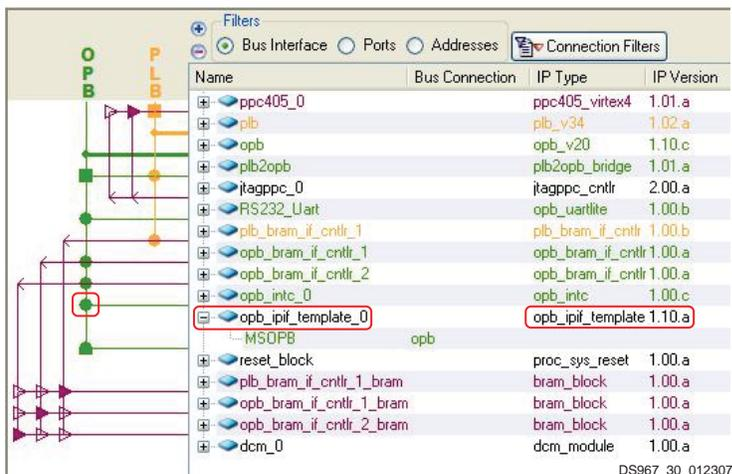

Figure 30: Connecting the Custom IP to the OPB Bus
4. To do so, make the selections as shown in Figure 30.
- c. Click on the green intersection with the OPB as shown in Figure 30 to connect the opb_ipif_template_0 OPB master and slave interfaces to the system OPB.
5. In the system assembly view, Figure 30, double click on **opb_ipif_template_0** to open the opb_ipif_template_v1_10_a window in which address configurations can be assigned.
In the system assembly view shown in Figure 30, select **Ports** under Filters, then connect the custom IP interrupt signal to the OPB interrupt controller. Connect the `User_FIFOs_Status_Flag` port to the Global output port. This signal will be connected to an LED on the ML403 board.